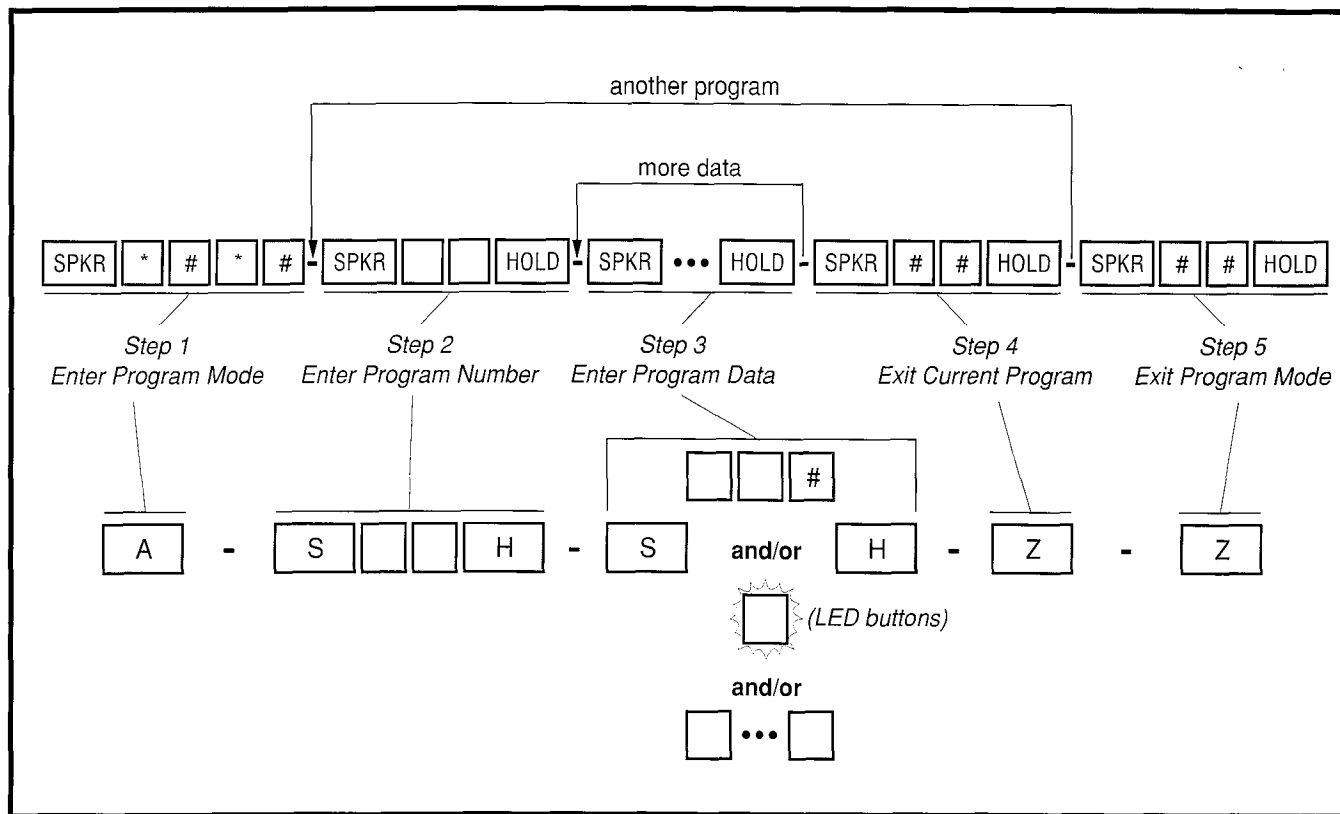

FIGURE 1-1—PROGRAMMING BUTTON SEQUENCE OVERVIEW
5-step process described below, and illustrated in Figure 1-1. *Button (key) sequences that stay the same for every program are abbreviated, and shaded.* Button sequences that are unique for every program are white.
1) In step 1, enter Programming Mode by pressing a series of buttons. See Figure 1-1. *To save space on the record sheets, abbreviation "A" is used to denote the beginning sequence.* "A" buttons are shaded.
3.12 Each System Record Sheet has the abbreviated button sequence shown in Figure 1-1 for its program illustrated at the top of the sheet.